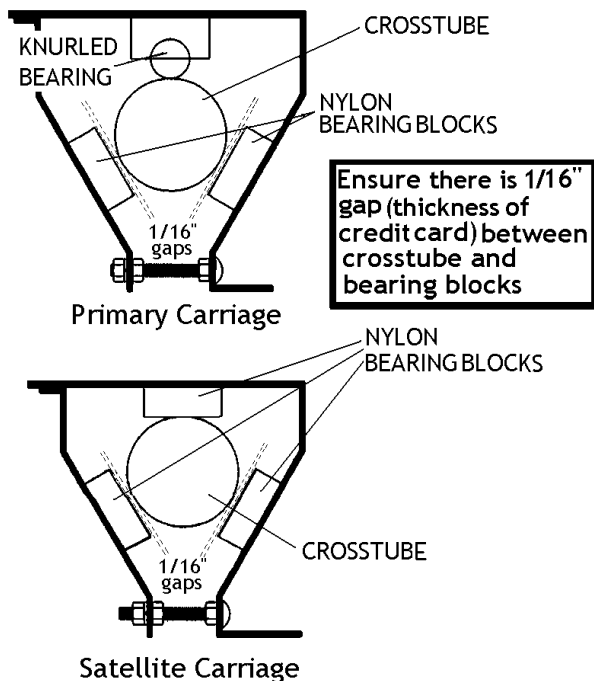

Figure 39 - Side View of Primary and Satellite Carriages
- 109 Ensure there is still clearance of approximately 1/16" (thickness of credit card) between crosstube and bearing blocks. **Figure 39.**